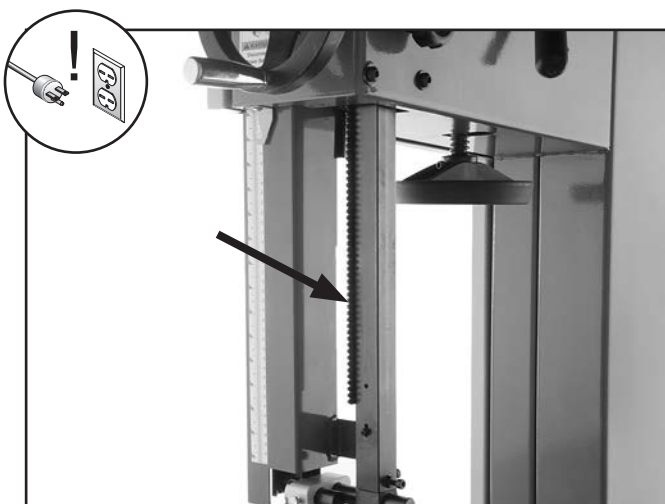

Figure 63. Example of rack lubrication location.
3. Using a rag and mineral spirits, wipe off any existing grease and sawdust buildup on the rack (see **Figure 63**).